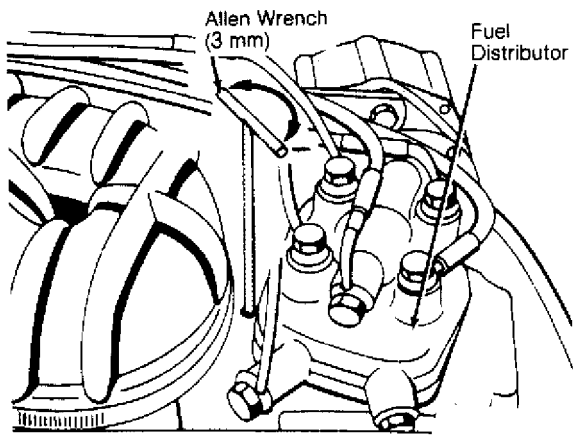

Fig. 4: Adjusting Idle C0 (CIS-E)
12) Start engine and run at idle. Adjust current reading to 10 mA by turning C0 adjustment screw with Wrench (P 377). Turn screw clockwise to lower reading, counterclockwise to raise reading. See Fig. 4.